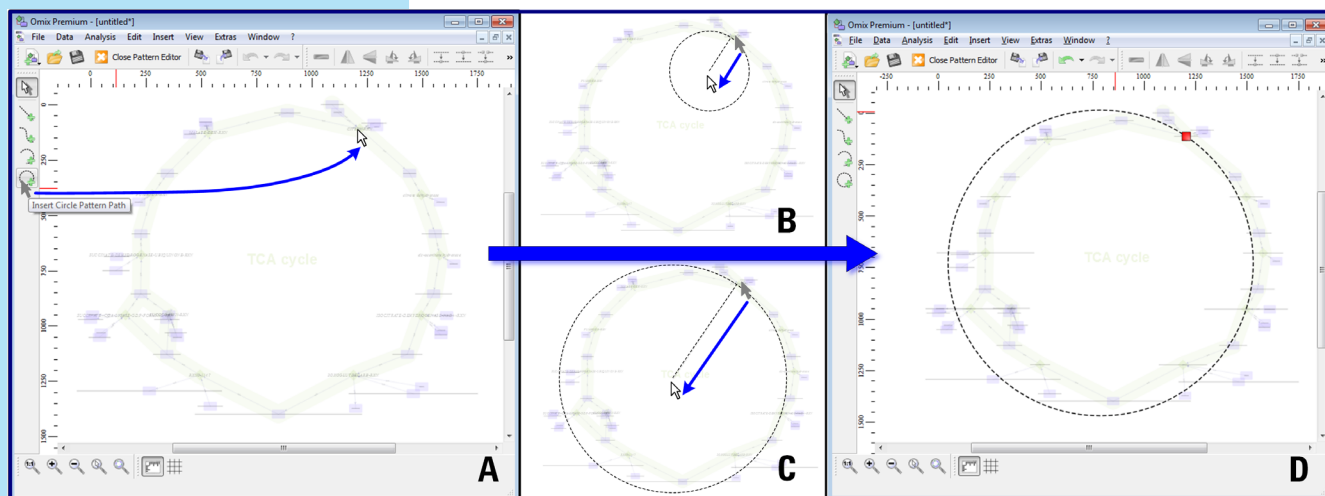

Figure 89 Sequence of actions to draw a circle pattern in the Pattern Editor
- c Click the **Insert Circle Pattern Path**  button on the toolbar (Figure 89 A on page 89).
- d Click in the *Drawing Area* over the CITCYN-RXN node to start the circle at the entry to the TCA cycle (Figure 89 B on page 89).
- e Drag the dynamic circle view so that is aligned with and slightly larger than the general TCA cycle in the *Drawing Area* (Figure 89 C).
- f Click on the *Drawing Area* to place the circle path. The beginning and end of the arc are indicated with red squares (Figure 89 D).